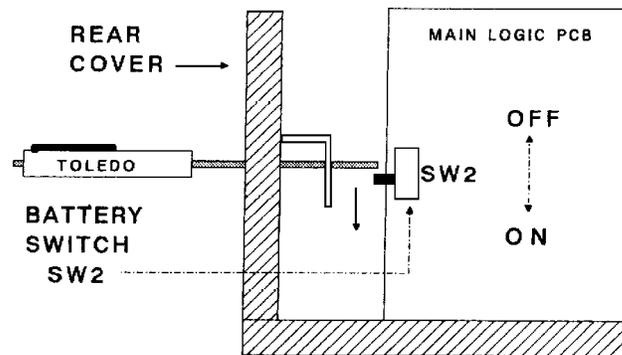

FIGURE 1
3. Using a small screwdriver, slide the battery switch (SW2) down to the ON position, as shown in figure 1. Access to SW2 is through the small slot in the rear cover adjacent to the power switch.